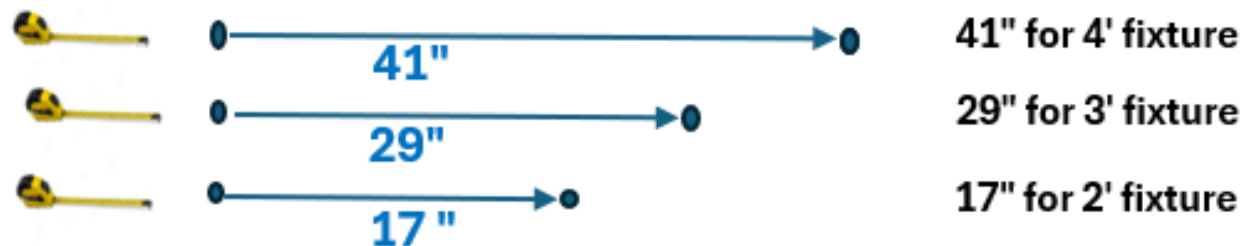
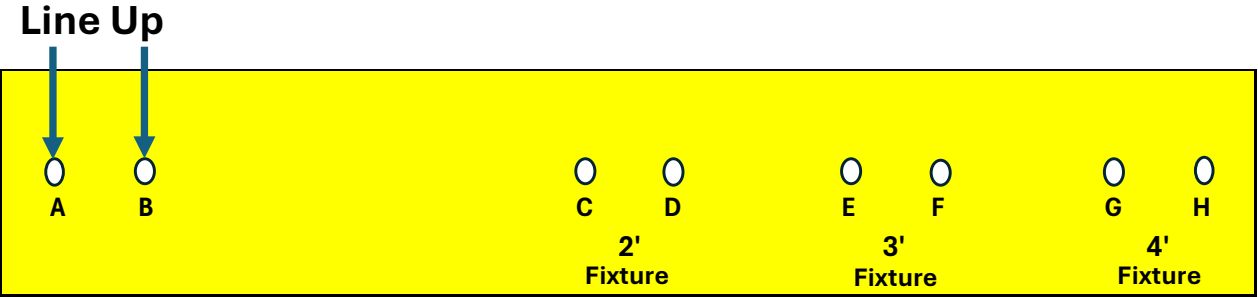

Figure 7
Figure 8
STEP 7: From center of hole B (second hole marked), measure out the appropriate distance for the specific fixture length based on the information below and mark (see figure 7)
STEP 8 Line up the marked hole (from figure 7 above) with the A hole (first hole) in the template and mark the B hole (second hole see figure 8 below)